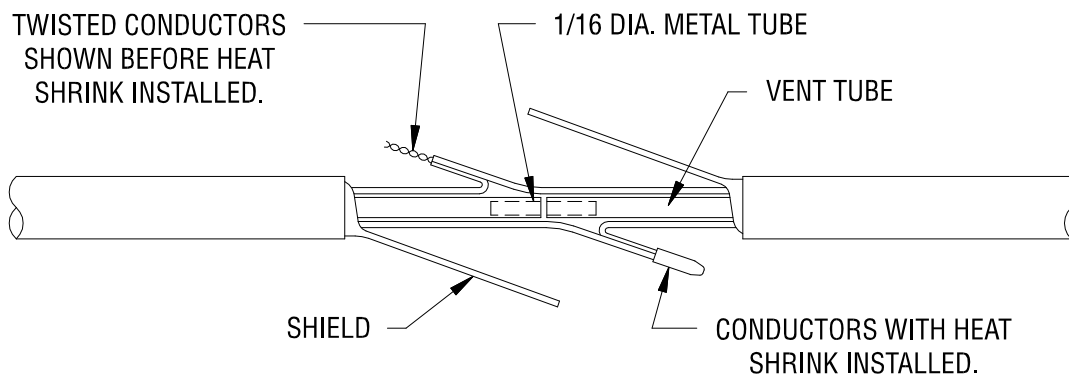

FIGURE 3
- Step 4d** Splice like-colored conductors together by twisting the stripped ends together, followed by soldering them. After twisting and soldering the wires, slide a small diameter (1/8" x ¾") shrink tube over the twisted portion and up onto the insulation by about 1/16". Shrink in place with a suitable heat source. A heat gun is preferred, but a hair dryer may be used. A match or lighter may also be used, but caution must be observed to avoid the burn hazard. Also, care must be taken not to melt the wire insulation or the shrink tubing. Refer to Figure 3.